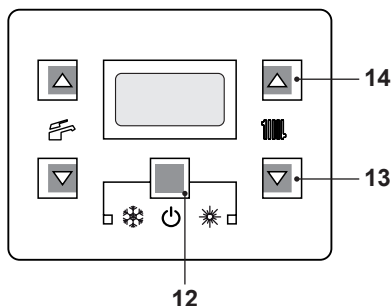
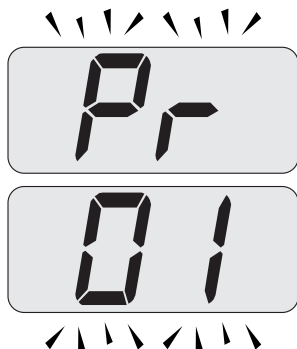
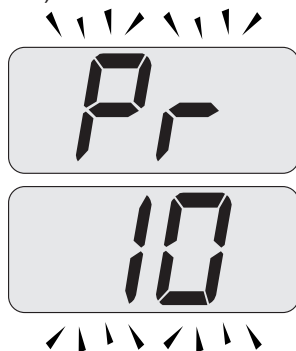

Fig. 8.22
Fig. 8.23
Fig. 8.24
- Enter the "programming mode" by sequentially pressing keys 12 - 13 - 14 (Fig. 8.22) for 10 seconds at the same time until the letters **Pr** that alternate with code **01** are displayed on the LCD display, indicating that "parameter 01" (Fig. 8.23) has been activated.
display, indicating that "parameter 10" (Fig. 8.24) has been activated.
- Press keys 12 and 14 (Fig. 8.22) at the same time until the value of parameter 10 (30=180 seconds) is displayed on the LCD display (Fig. 8.25).
- By pressing key 12 (Fig. 8.22) confirmation of the inserted value is obtained.
- Press keys 12 and 13 (Fig. 8.22) at the same time to exit without changing the value (return to the parameters list Fig. 8.24).
- Press sequentially keys, 12 - 13 and then 14 (Fig. 8.22) and hold in for 10 seconds to exit the "programming mode".